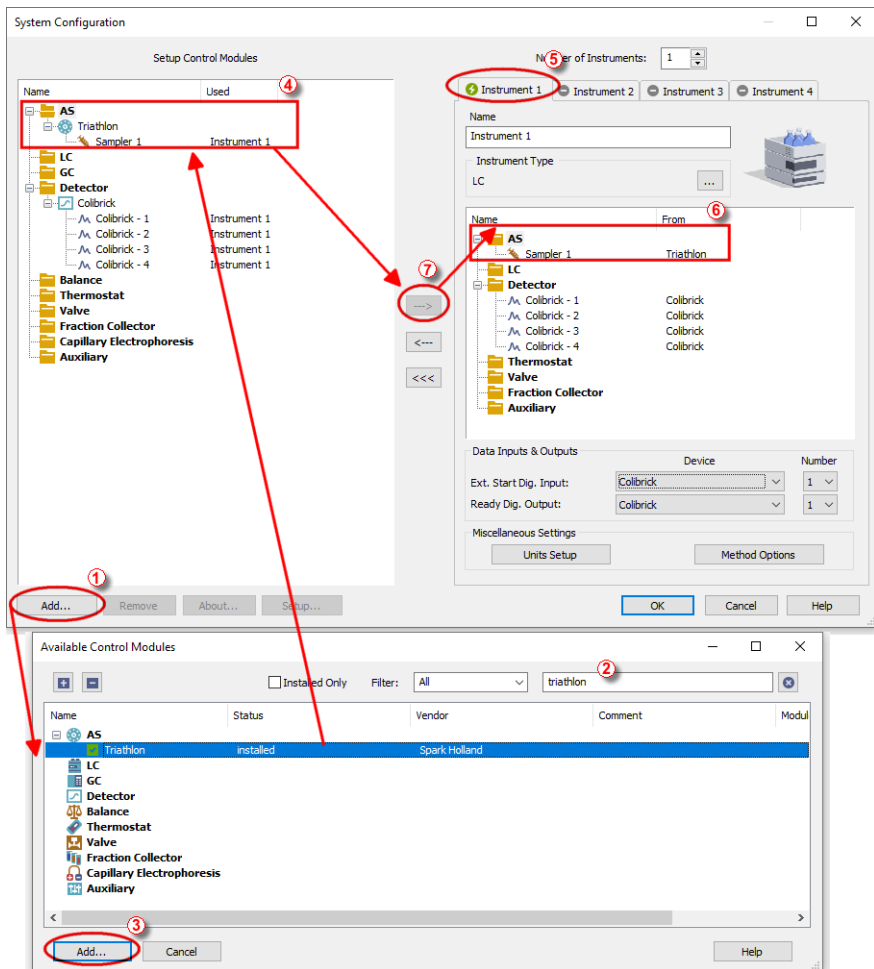

Fig 3: System Configuration
- Press the **Add** button ① (see **Fig 3** on pg 4.) to invoke the **Available Control Modules** dialog.
- You can specify the searching filter ② to simplify the finding of the driver.